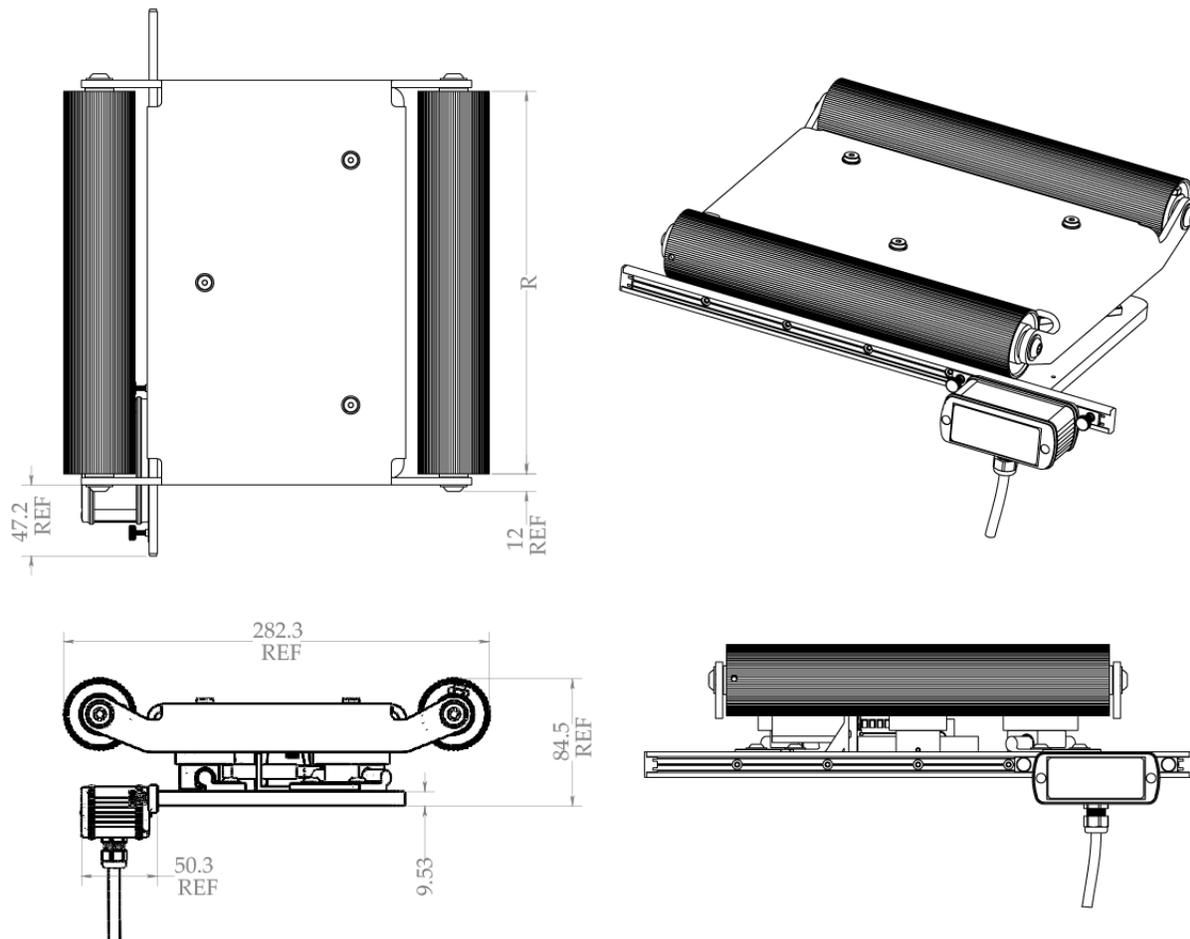
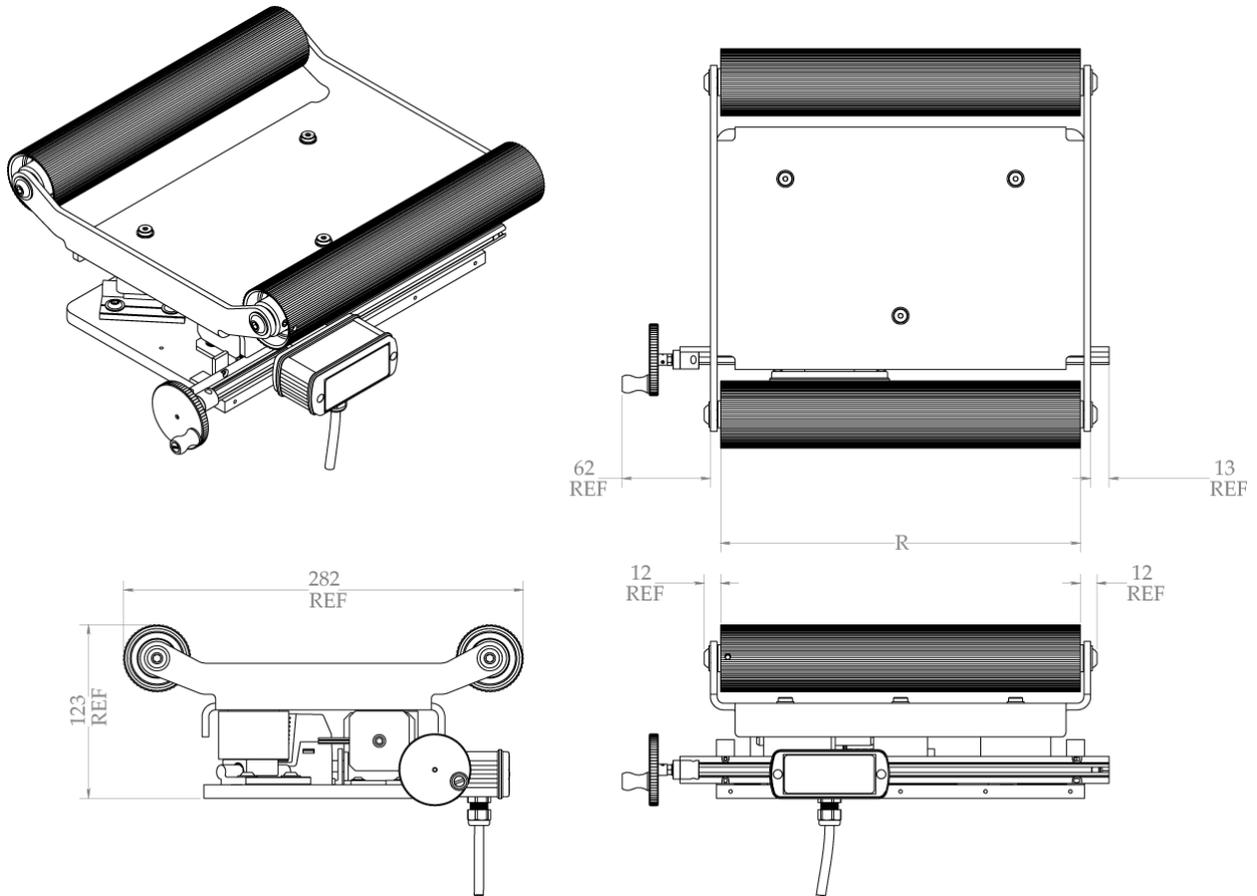

Fig. 4: Physical dimensions of the web guide: U-Pattern
Fig. 5: Physical dimensions of the web guide: Z-Pattern
Two roller mounting options and two sensor mounting options are available as shown in Fig. 4 and Fig. 5. The standard option is shown in Fig. 4.
Two different types of sensor assembly are available. Standard sensor mounting option is shown in Fig. 4 and the option with lead-screw sensor positioner is shown in Fig. 5.
- The orientation of the sensor and the lead-screw rail when mounted on the machine frame should match the orientation of the standard sensor mounting option as shown in Fig. 5.